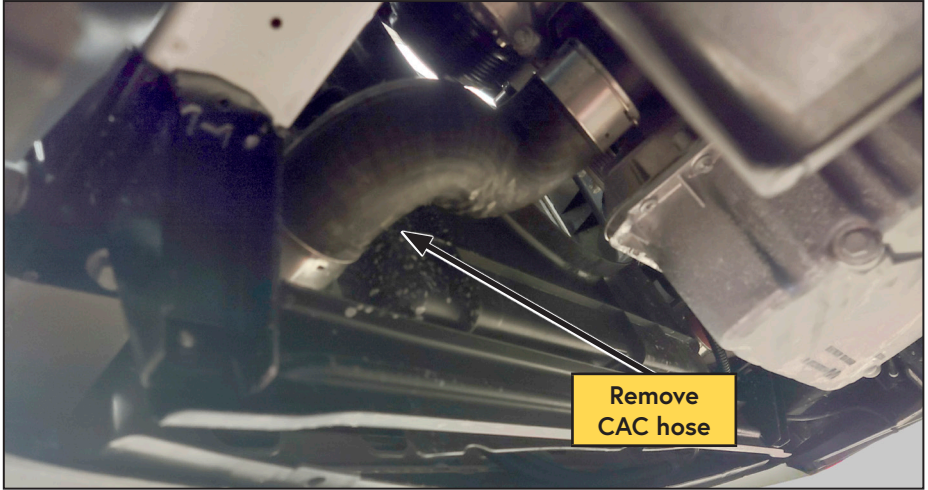

Figure 6 — Remove driver side CAC hose
- Remove the driver side CAC hose (Figure 6).